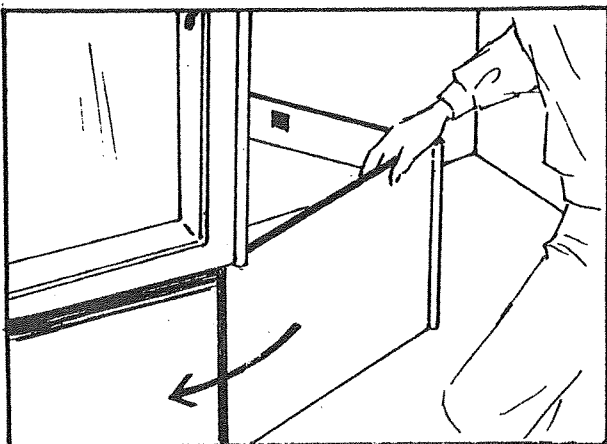

FIGURE 22
30. While holding the wardrobe in a vertical position, unfold the wooden rest from its storage position against the rear interior trailer wall and slide it under the wardrobe until it is flush with the two exposed sides of the wardrobe. This set-up is now complete and may be used as a wardrobe. See Figure 22.